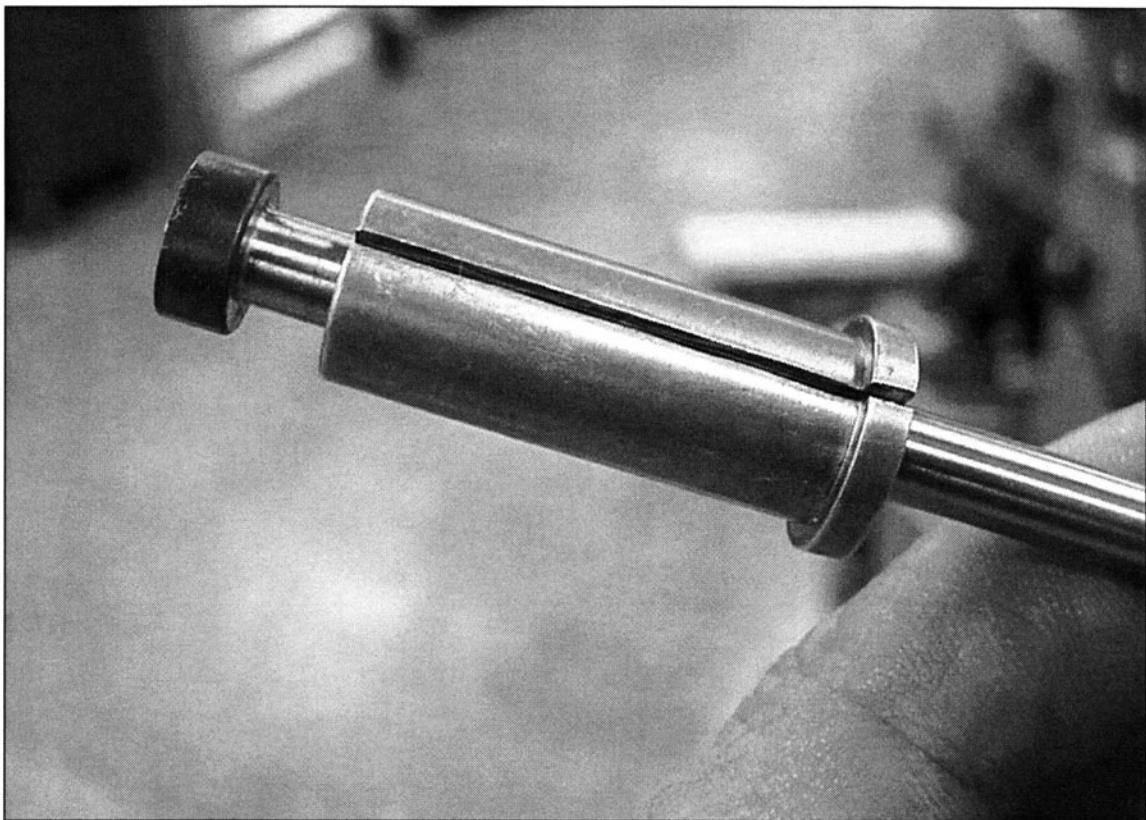

FIGURE 13-12 A split bushing can be used to hold ejector and core pins for easy insertion in a lathe.
35. Make a bushing to slide over core pins and ejector pins for easy handling in a lathe. (See Fig. 13-12)